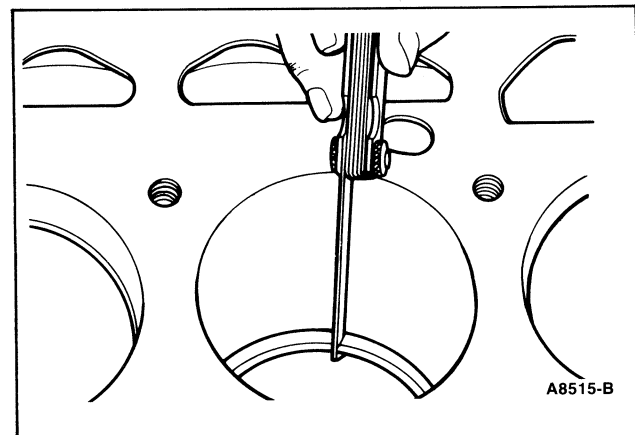

FIG. 13 Checking Piston Ring Gap
5. Measure the gap between the ends of the ring with a feeler gauge (Figure 13). If the ring gap is less or greater than the specified limits, try another ring set.